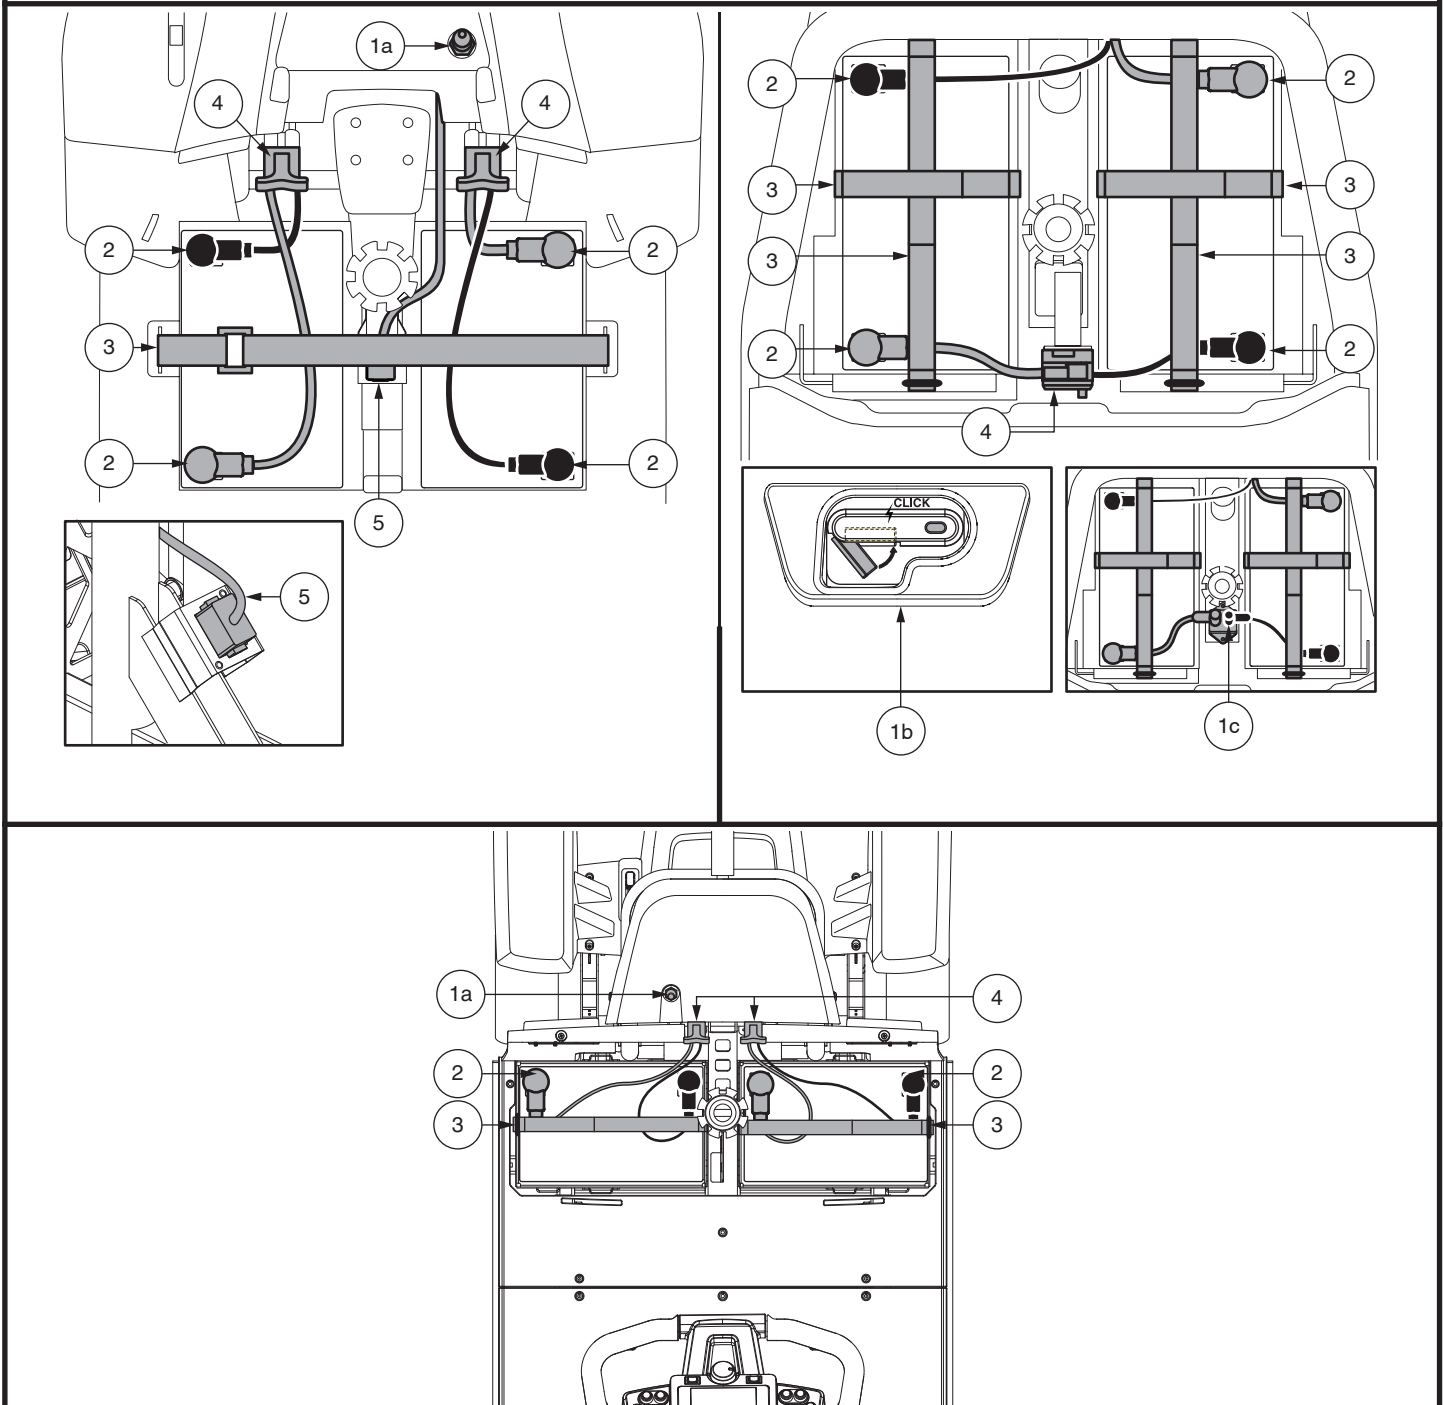

Figure 16. Battery Removal/Installation Terminals and Connections
3. For all models EXCEPT 614 and 714, disconnect the front-to-rear harness. Unplug both battery harnesses by pulling each harness out of its mating plug. See figure 16.
4. Disconnect the battery cables from the battery terminals by sliding back the terminal boots and unscrewing the nut from the bolt. **See figure 16.**
6. Place a new battery in each battery well. Face the battery terminals of each battery away from the seat post with the positive (+) and negative (-) battery terminals positioned as shown in **figure 16.**
NOTE: *Models 614 and 714 use battery straps to secure batteries in the battery wells. Please refer to figure 16 for battery strap installing procedures.*
WARNING! When faced with an emergency situation, the batteries can be quickly disconnected by pulling **FORWARD** on the emergency battery disconnect strap. Use caution. Be advised that turning off power to the scooter may cause the scooter to stop abruptly. To release the emergency stop and restore driving capability to the scooter, remove the seat and battery shroud, and reconnect the battery connector as shown in Figure 16.